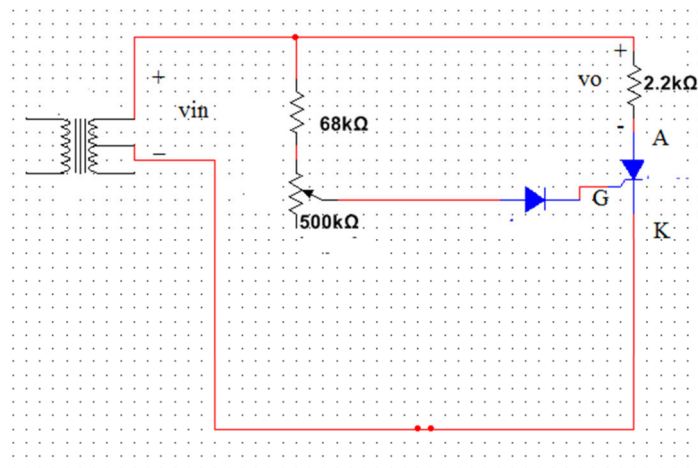

Figure 2.5: Single Phase Halfwave Controlled Rectifier
- Implement the single phase halfwave controlled rectifier circuit on breadboard as shown in the Figure 2.5.